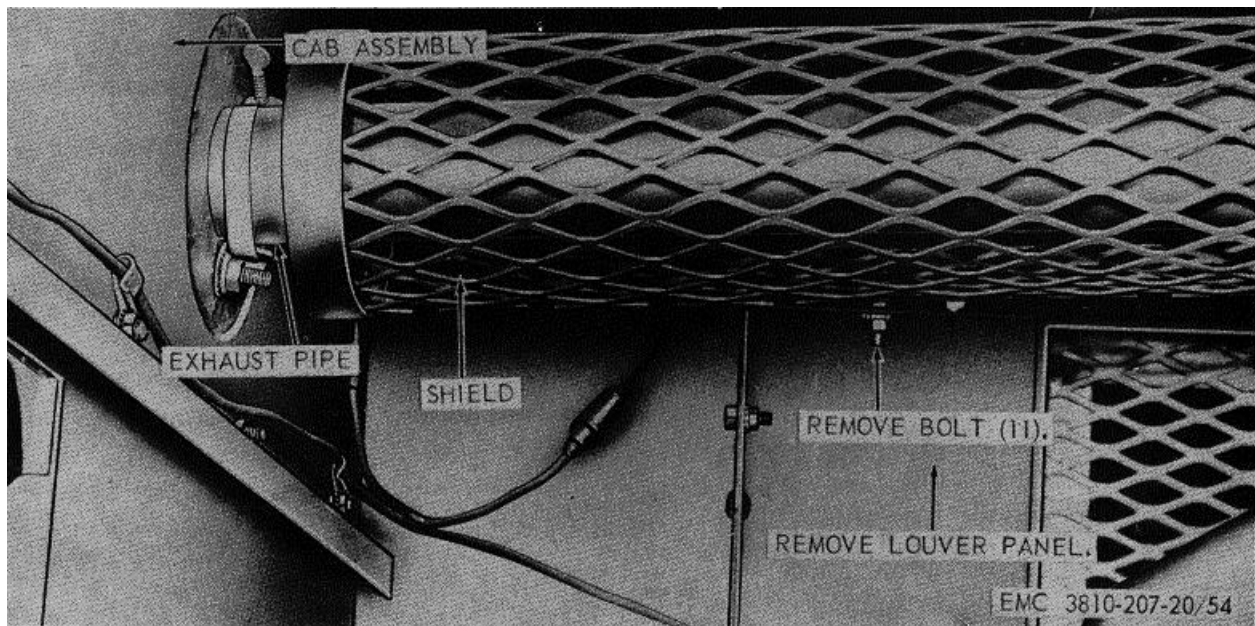

Figure 54. Louver panel, removal and installation.
a. *Removal.* Remove the louver panel as instructed on figure 54.
- (1) Clean the louver panel with an approved cleaning solvent.
- (2) Inspect the louver panel for breaks, cracks, and other damage. Repair or replace defective louver panel.
c. *Installation.* Install the louver panel as illustrated on figure 54.